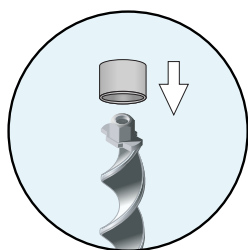

Fig 2. VIEW SHOWN IS FROM THE REVERSE OF THE FLAG
3. Place the hammer cap over the anchor before hammering. (Fig 2)